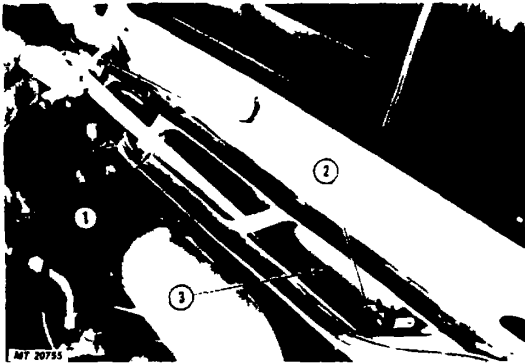

Fig. 4 Removing Windshield Wiper Linkage
6. Remove three mounting bolts from each pivot bracket and lift out complete pivot brackets and wiper linkage assembly from inside air intake chamber (Fig. 4).